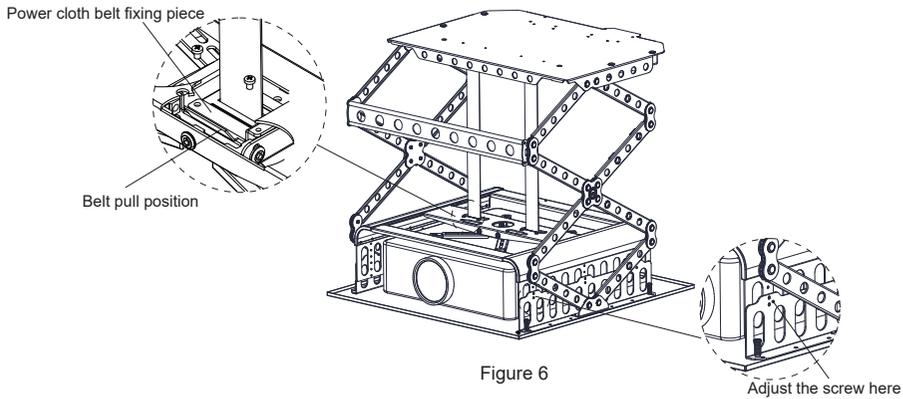

Figure 6
4. As shown in Figure 6, you can loosen the screws in the cloth strap fixing piece to pull the cloth strap to reduce the height of the projector (0mm-600mm). In addition, when encountering a larger projector, you can loosen the originally fixed screws and adjust them to the screw holes suitable for the height of the projector as shown in Figure 6-2.